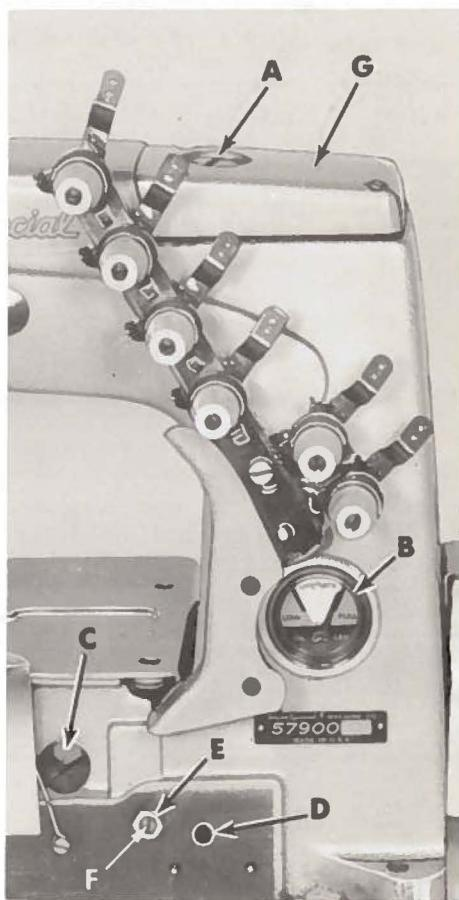
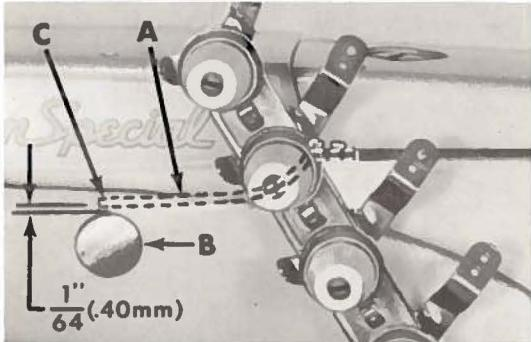

Fig. 2
Fig. 3
Use a straight mineral oil of a Saybolt viscosity of 90 to 125 seconds at 100° Fahrenheit in the main reservoir. This is equivalent to Union Special specification No. 175. Fill main reservoir at plug screw in upper crank chamber cover (A, Fig. 2) and check oil level at gauge (B). Oil is at maximum safe operating level when needle is to the black line, located to the right of "OPERATE" zone, marked "FULL". Oil should be added when needle is to the black line, located to the left of "OPERATE" zone marked "LOW". Recommended grease No. 28604 P (See Page 13).
For machines in operation check the oil for dirt and lint deposits at reasonable intervals. If dirty, change the oil. An oil change is recommended every 2000 operating hours. Oil may be drained from main reservoir by removing plug screw (C, Fig. 2) located below the cloth plate at front of the machine, or by removing the lower crank chamber cover, located at the back of machine.
2. Remove the oil reservoir plug screw (C, Fig. 2) and tip machine forward to drain oil from the reservoir.
5. Fill main reservoir to a level even with the bottom contour of the knee press shaft bushing (D, Fig. 2).
Remove the head cover and upper crank chamber cover (G, Fig. 2). Check position of needle lever bearings oiler (A, Fig. 3) located inside the arm casting, below the upper crank chamber cover, which lubricates the needle lever stud (B). Make sure it is tilted downwardly and that its delivery end (C) contacts the inside wall of the bed casting at the back, just above the notch of the needle lever shaft stop collar. (Do not allow the oiler to rest on the needle lever). Allow $\frac{1}{64}$ inch (.40 mm) clearance as in Fig. 3.